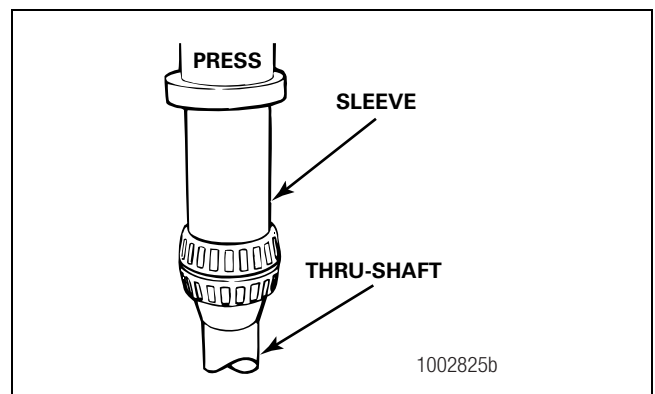

Figure 5.4
2. If the bearing cones were removed from the thru-shaft, install new bearing cones. Place both cones back-to-back onto the thru-shaft. Use a press and sleeve to install both cones. Apply pressure until the inner cone seats onto the shoulder of the thru-shaft. Figure 5.4.